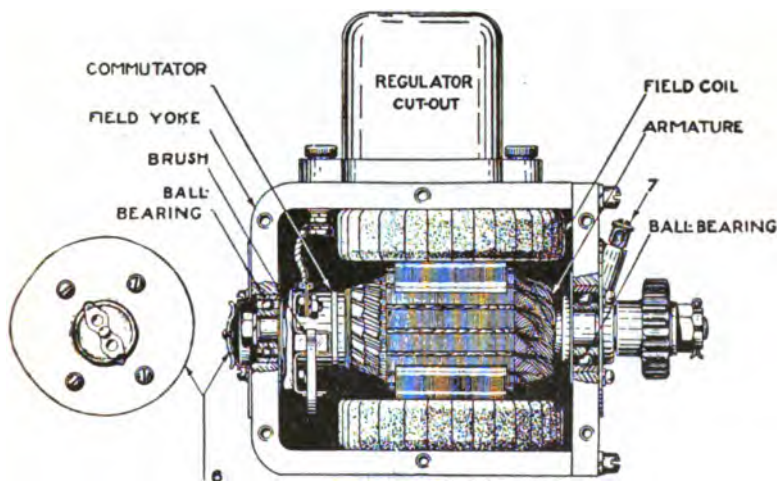

Fig. 280. Section of Gray & Davis Generator for Silent-Chain Drive
**Generator.** The bipolar generator is designed for drive by silent chain, as shown in Fig. 280, or when combined with ignition distributor from the pump shaft, Fig. 281.